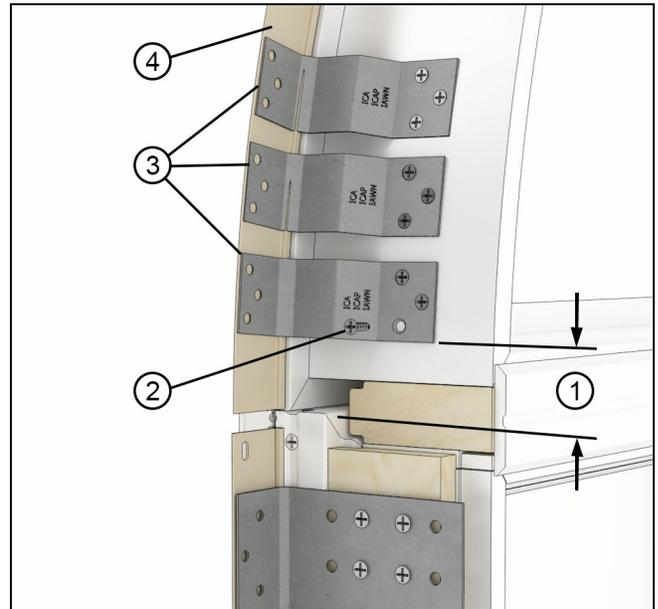

Figure 7
2. At the round top, place three round top installation clips at each mull point starting 1 1/2" from the mullion. Attach these with three #7 x 5/8" Phillips flat head screws. See Figure 7.